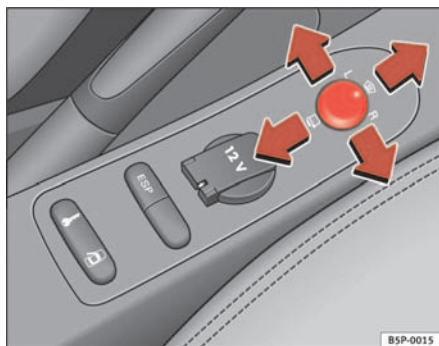

Fig. 90 Exterior mirror control
1. Turn knob ⇒ **fig. 90** to position **L (left exterior mirror)**.
- Turn the knob forwards to the central position ⇒ **fig. 90** so that the heated rear view mirrors warm up and the heated windscreen* in the wiper blade rest area is activated ⇒ page 120.
- Turn the control ⇒ **fig. 90** to position to fold in the exterior mirrors. You should always fold in the exterior mirrors if you are driving through an automatic car wash. This will help prevent damage.